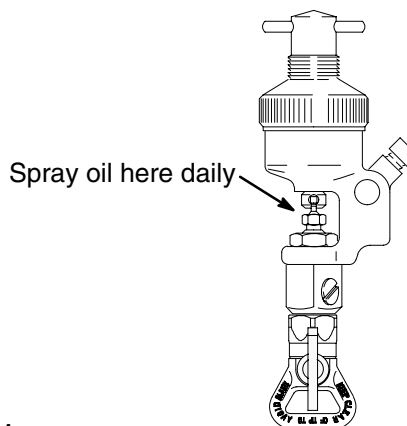

Fig. 1
**NOTE:** Reference numbers and letters in parentheses in the text refer to the callouts in Figures 1, 2, and 3, and the Parts Drawings.